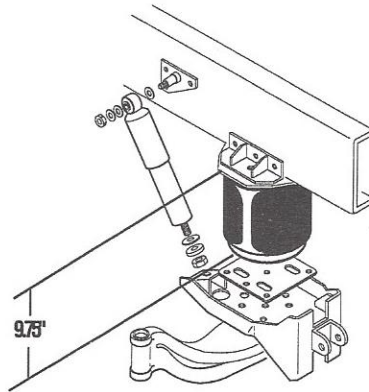

Figure 3.1. Air Spring Height Measurement
Only one automatic height control valve is used on the steer axle. The rear drive axle utilizes two (2) valves, one mounted on the right frame rail and one opposite on the left frame rail. Refer to figure 3.1.
Refer to Figures 3.1 and 3.2 when performing this adjustment.